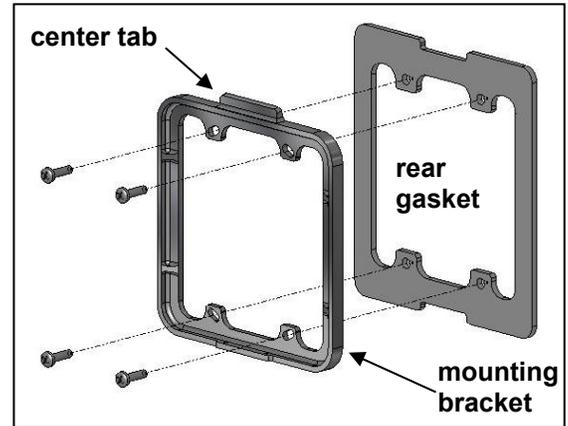

Figure 8
**NOTE: Make sure that the included weather proofing gasket is placed as shown in *Figure 8*.**
- As shown in *Figure 8*, the first step to installing the Selective Call Door Unit is to place the included rear gasket against the gang or back box, and secure the gasket in place with the included mounting bracket.